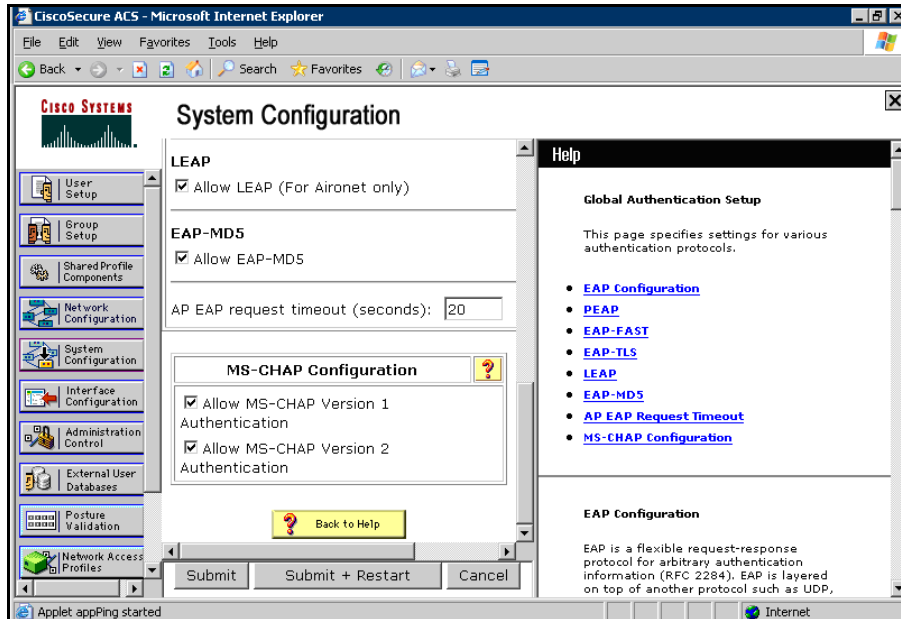

FIG. 80 EAP-LEAP sample Cisco System Security page
- Refer to FIG. 80 for an example of what a typical EAP-LEAP system configuration page would like.